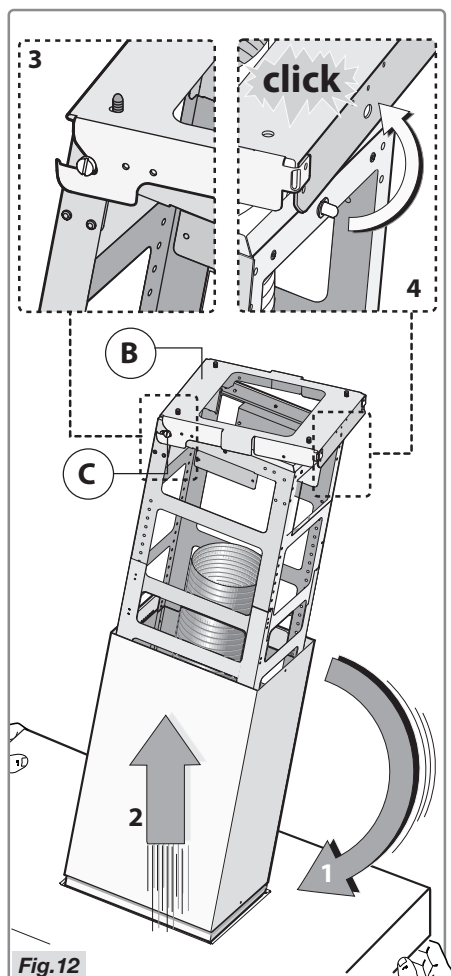

Fig.12
- Take the hood and incline it as shown in Figure 12 – step 1.
- Using the 2 side pivots **C** already on the structure, hang the hood on the bracket **B** Figure 12 – steps 2-3.
- Move the hood into position, to engage the safety pivot in the hole of the bracket **B** Figure 12 – step 4.